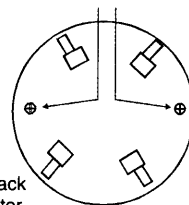

Fig. 3 Two screws on back of NB-338 smoke detector
The normal condition for the relay is "normally open" (NO). To remove top cover remove two screws on back of NB-338 smoke detector as shown in Figure 3